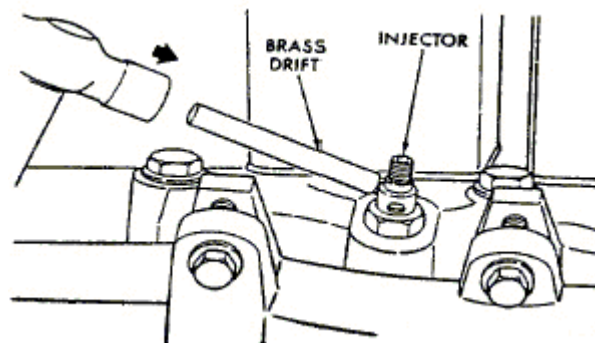

Fig 2: Loosening Injector Body
5. Hit the injector body with a brass drift to loosen it. (Fig 2).